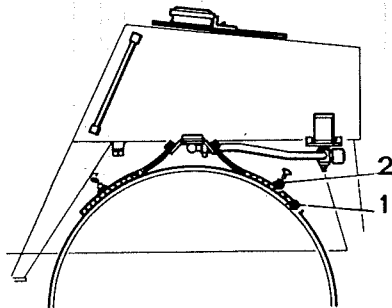

Fig. 14 Water-distribution
Each drum has one mat (1). These rest on the drums under their own weight. Two additional mats (available as accessories) may be fitted to each drum (in accordance with Fig. 14).